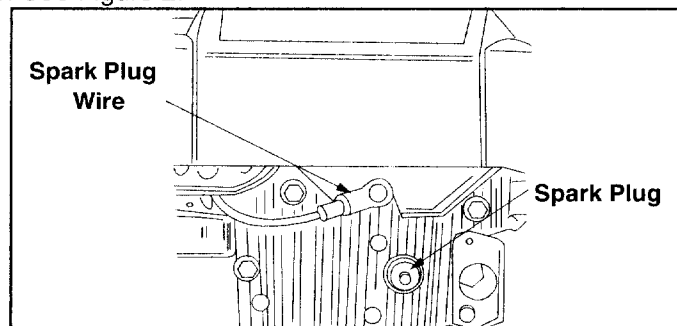

FIGURE 2
- Before setting up your lawn mower, disconnect the spark plug wire from the spark plug, and ground it to a bolt on the engine. See Figure 2.